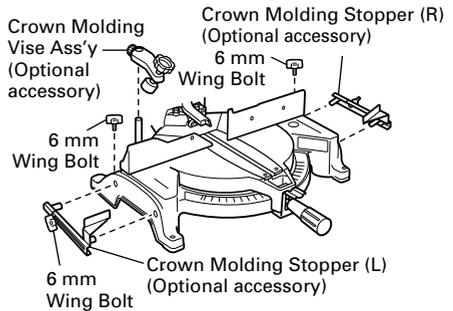

Fig. 19
- (1) Crown molding Stopper (L) and (R) (optional accessories) allow easier cuts of crown molding without tilting the saw blade. Install them in the base both-sides side to be shown in Fig. 19. After inserting tighten the 6 mm knob bolts to secure the Crown molding Stoppers.